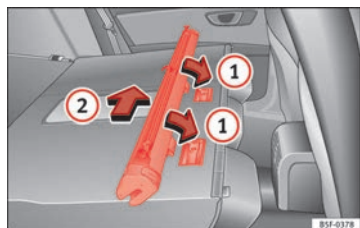

Fig. 102 Assembling the net partition in the rear seat backrests.
⇒ Fig. 102 ①.
- Push the casing towards the left side of the vehicle in the direction of arrow ⇒ Fig. 102 ② and as far as it will go.
- Pull the net casing out approximately 5 cm in the opposite direction to the arrow ⇒ Fig. 102 ②.
- Remove the casing from the rails by pulling in the opposite direction to the arrows ⇒ Fig. 102 ①.